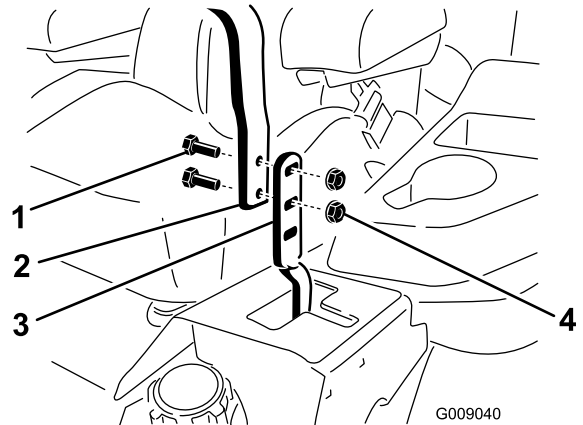

Figure 95
3. Loosen the bolts and flange nuts installed in the levers (Figure 95).